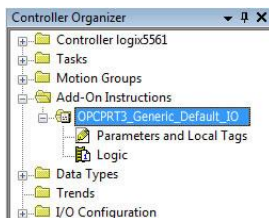

Figure 43: Generic Default IO Add-On Instruction
- 2) Right click on "Add-On Instructions" in the controller organizer view and select "Import Add-On Instruction". Browse and import the generic default I/O add-on instruction. Refer to Figure 43.